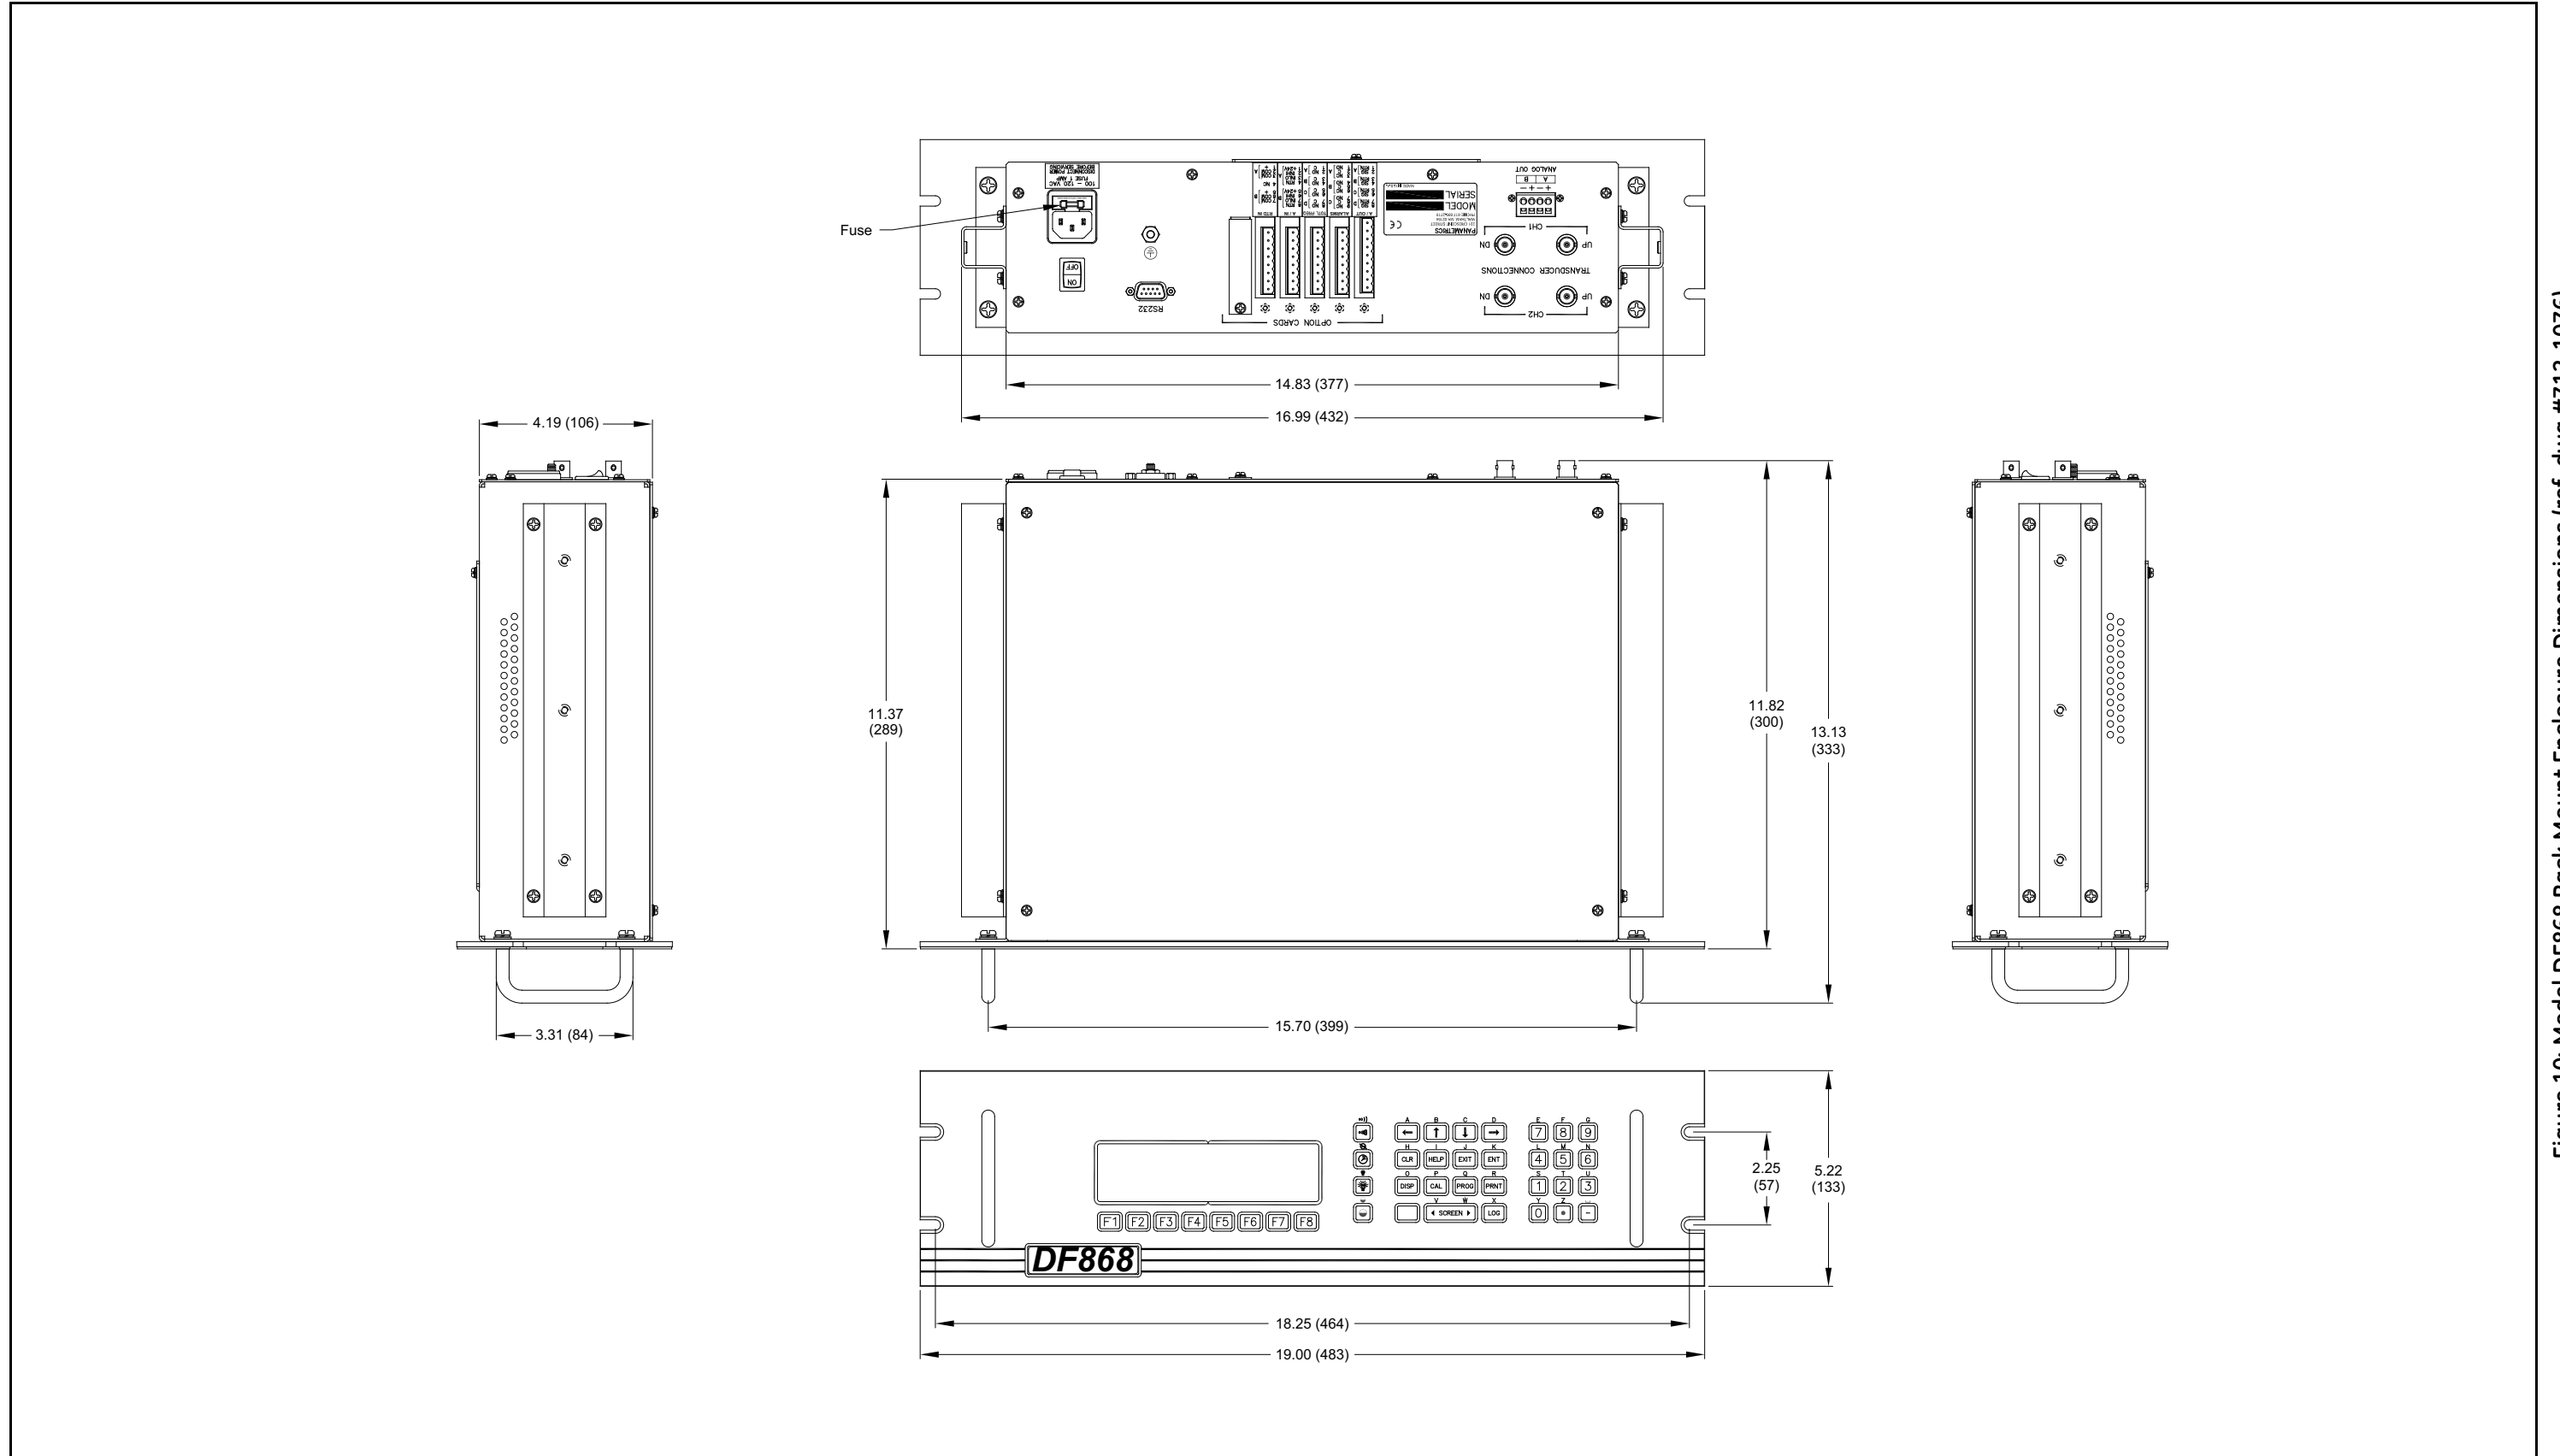
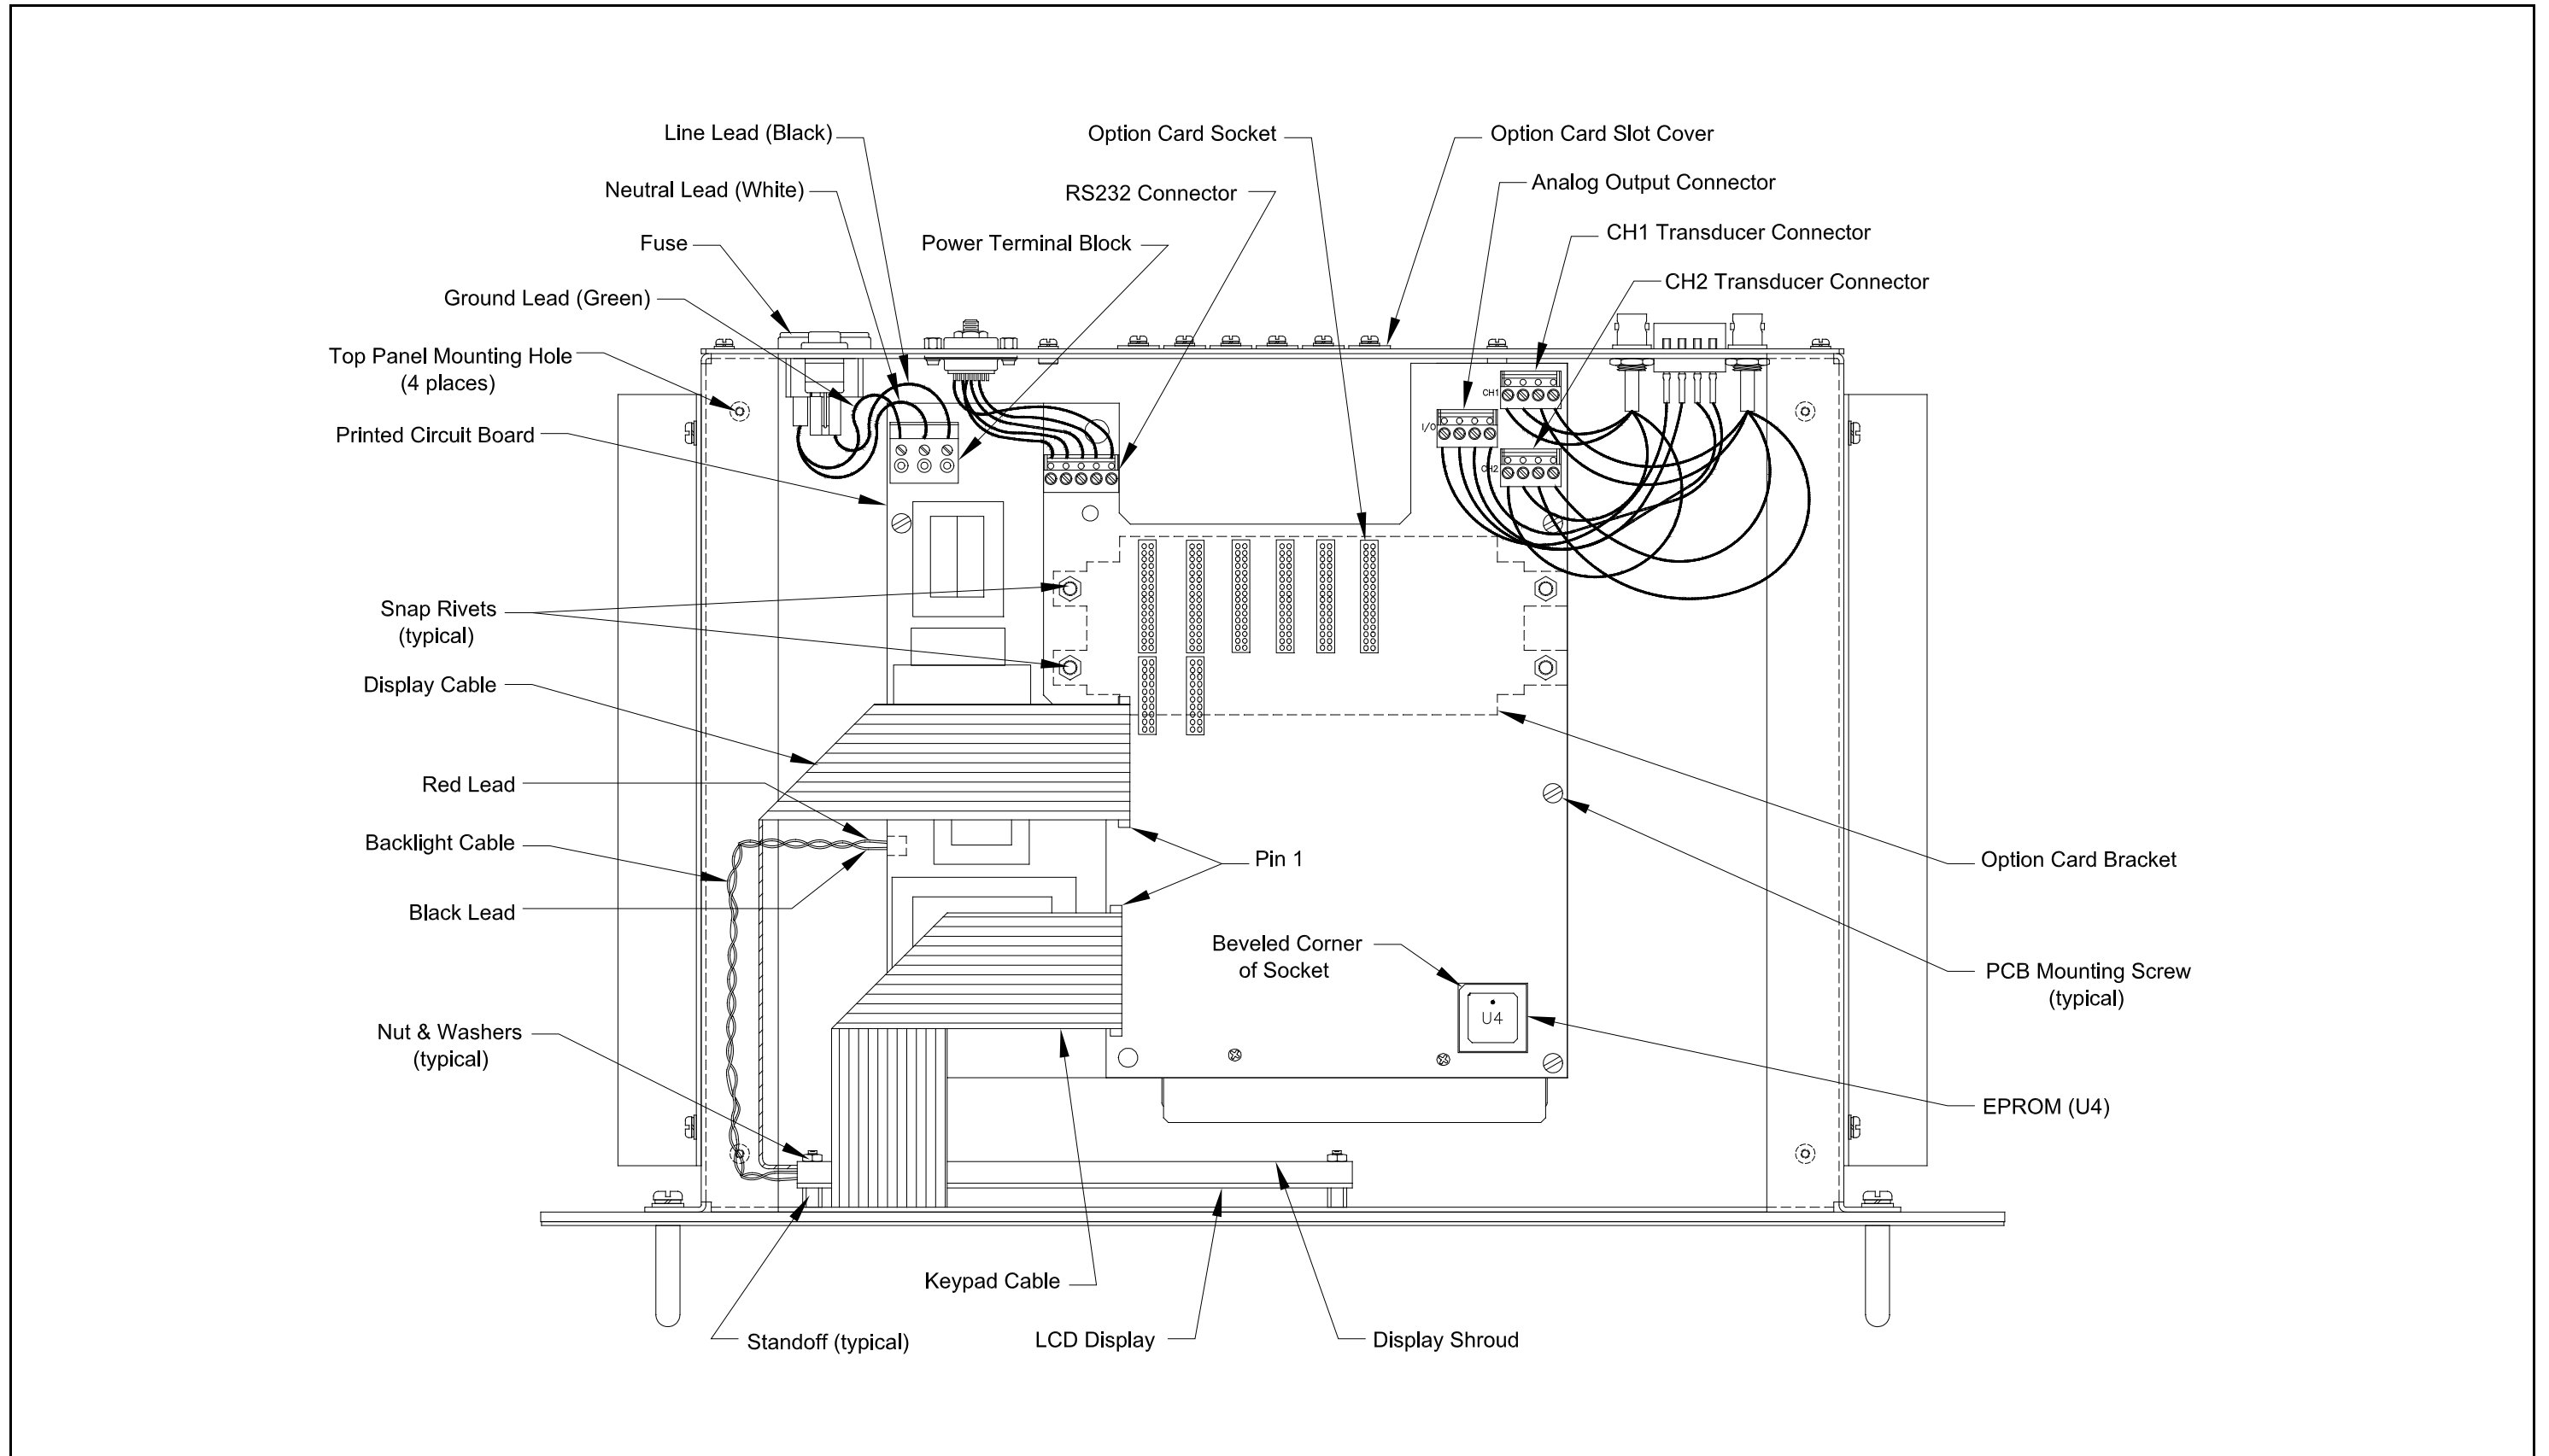

Figure 10: Model DF868 Rack Mount Enclosure Dimensions (ref. dwg #712-1076)
Figure 11: Model DF868 Rack Mount Console Assembly (ref. dwg #705-849)
Refer to Figure 10 on page 49 and Figure 11 on page 50 for the location of the relevant components, while completing the following procedures. If the top panel of the meter is accessible, service may be performed without removing the meter from the rack. Otherwise, disconnect all rear panel electrical connections and remove the meter from the rack before proceeding.
If it has been determined that the fuse in the Model DF868 requires replacement, refer to Figure 10 on page 49 and Figure 11 on page 50, and complete the following steps:
Refer to Figure 11 on page 50 and complete the following steps:
EPROM replacement may be required to replace a defective chip or to upgrade to a newer software version. To replace the EPROM, refer to Figure 11 on page 50 and complete the following steps:
To replace the LCD display, refer to Figure 11 on page 50 and complete the following steps:
5. Install the RS232, ANALOG OUT and TRANSDUCER connectors onto the printed circuit board at the locations indicated in Figure 11 on page 50. Make sure the marked pin #1 sides of the connectors face the right side (keypad side) of the enclosure.